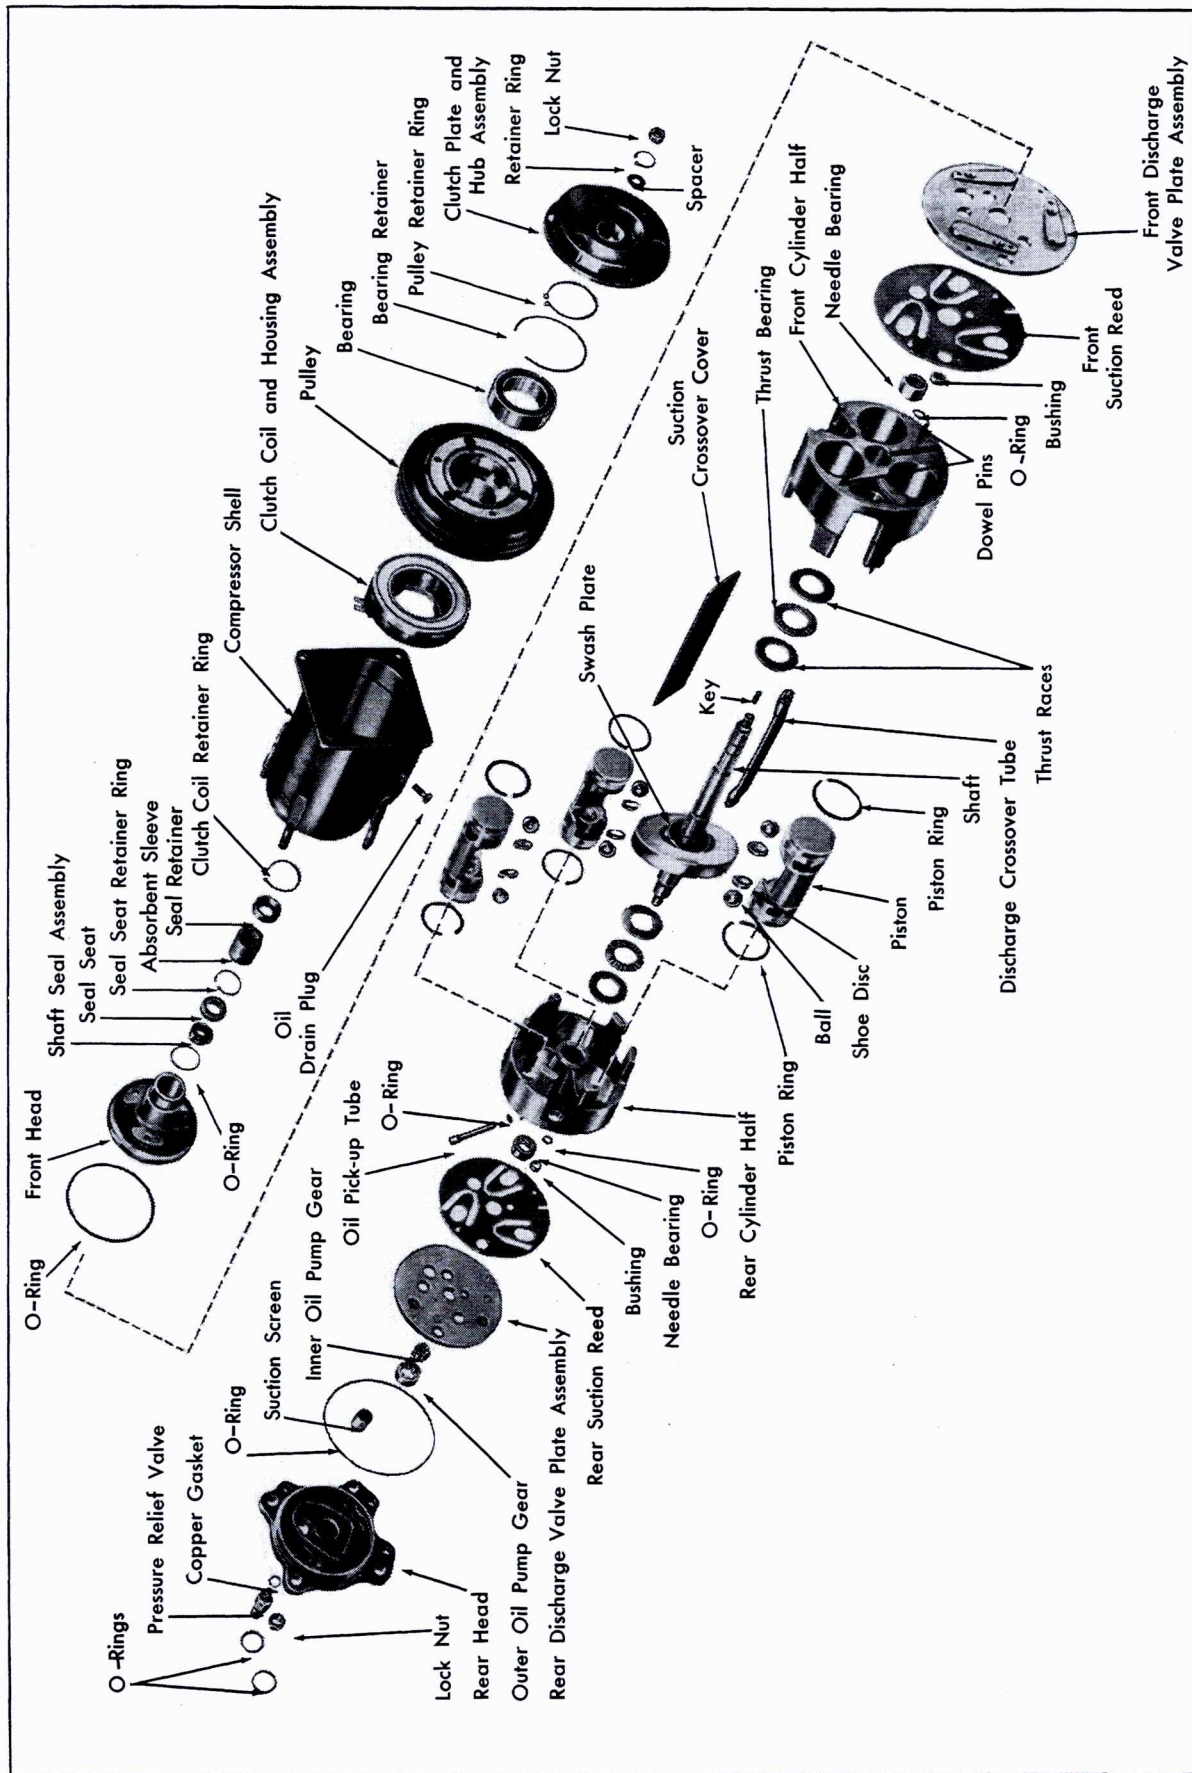

Fig. 1-36 Compressor Disassembled
When servicing the compressor, remove only the necessary components that preliminary diagnosis indicates are in need of service. Refer to Fig. 1-36 for information relative to parts nomenclature and location.
4. Place Spacer, J-9480-2, on hub, Fig. 1-36. Insert end of Clutch Plate and Hub Assembly Installer, J-9480, through spacer and thread tool onto end of shaft.